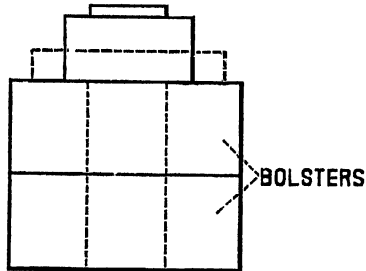

Fig. 1.
- Fig. 1.—Bar roughed out.
The end is drawn out and then headed in bolsters, as shown in Fig. 1. A flat bar is used for spreading the piece to the desired length. It lengthens the